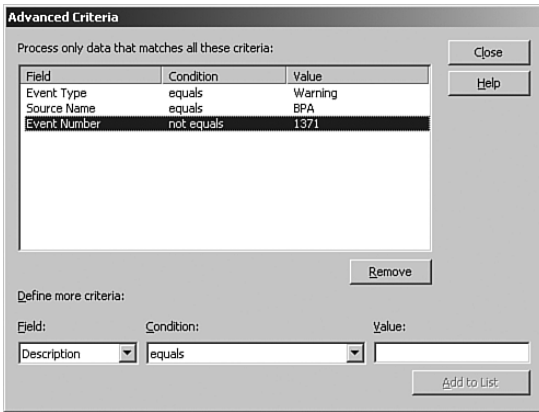

FIGURE 14.42 Adding advanced criteria.
3. On the Criteria tab of the new rule click on Advanced, and add a criterion that says when Event Number Not Equals 1371 (the event id of the SMTP queue folder warning). This is shown in Figure 14.42.